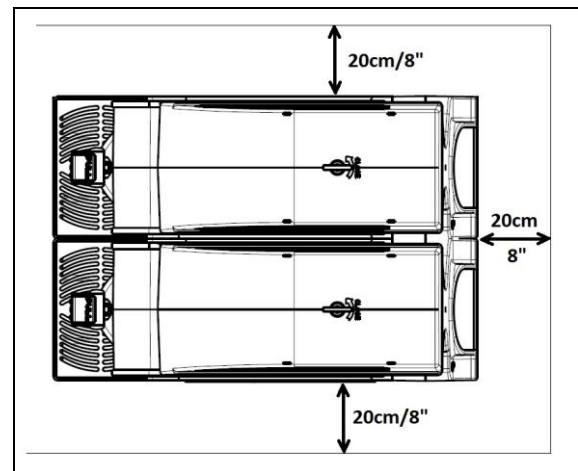

Fig. 20
b) Rest the machine on a sturdy, flat surface making sure it is well ventilated by leaving a gap of 20 cm around it and do not install it near heat sources (fig.20); **we recommend you to maintain a room temperature between 24 and 32°C (between 75 and 90°F).**